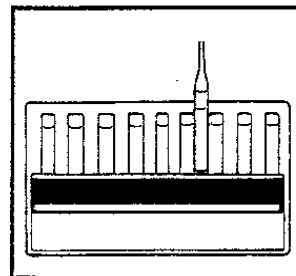

Figure 5
- b. Hold the high range comparator in a nearly horizontal position while standing directly beneath a bright source of light. Place the CHEMmet ampoule between the color standards moving it from left to right along the comparator until the best color match is found (fig 5).